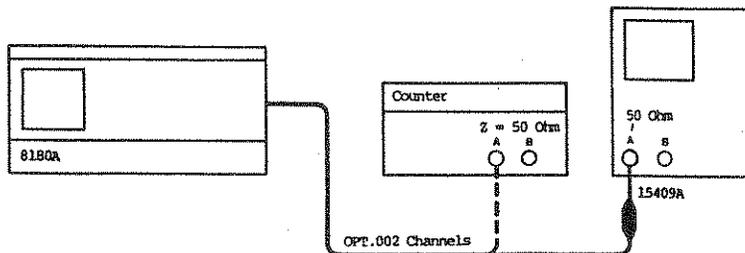

Figure 4-6 Width Test Setup
7. Connect equipment as shown in Figure 4-6 and press RUN.
10. Connect counter as shown in Figure 4-6 and check width for all OPT. 002 channels as listed.